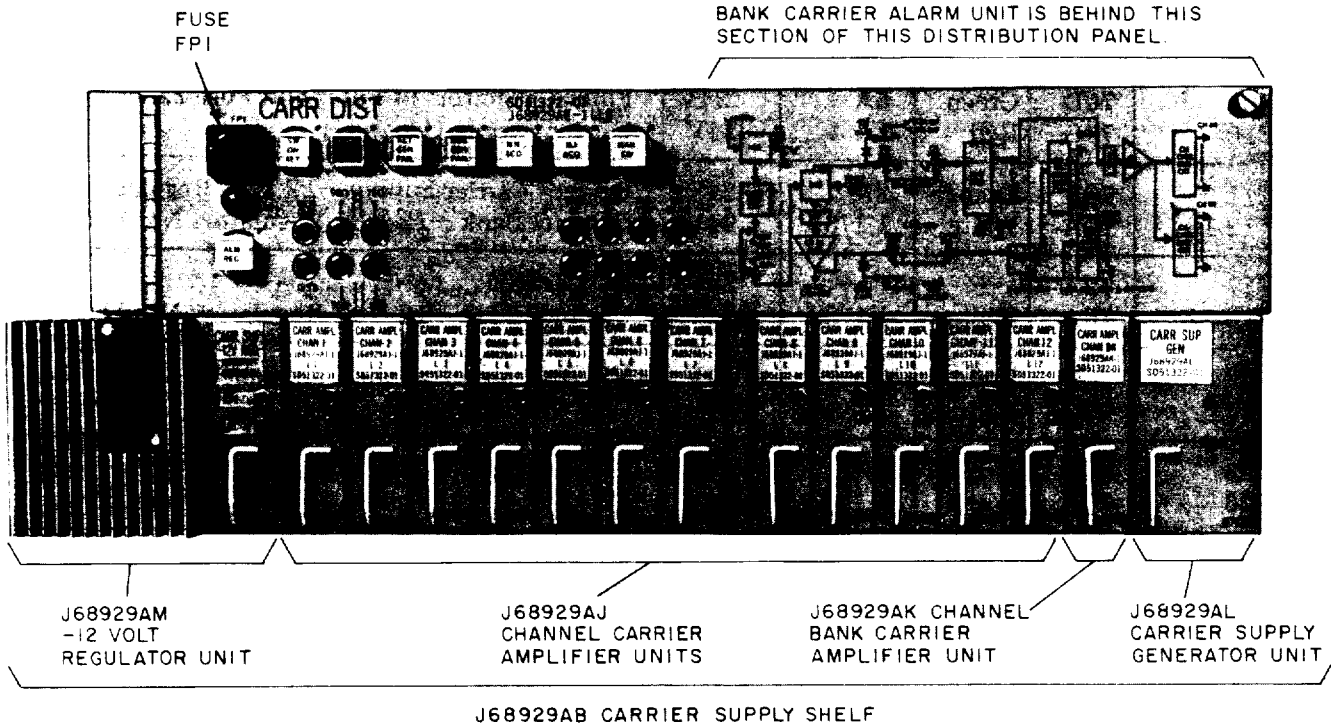

Fig. 2—A6 Carrier Supply and Distribution Panel—First Bay
- (b) The CARR FAIL and REG GEN FAIL lamps on the J68929AE (L1 and L2) panel (Fig. 2) are lighted.
- 8 Insert fuse FP1 in the J68929AE (L1 and L2) carrier distribution panel (Fig. 2).
- 11 (a) Insert the J68929AL carrier supply generator unit (Fig. 2).
13	Insert the J68929AM carrier supply -12 volt regulator (Fig. 2).
17	Insert, one at a time, the twelve J68929AJ channel carrier amplifier units and the one J68929AK channel bank carrier amplifier unit (Fig. 2). Requirement: No fuses blow.